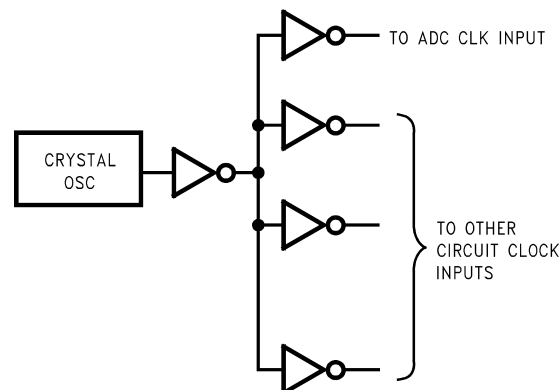

**Figure 23. An acceptable layout pattern**
**Figure 23** gives an example of a suitable layout, including power supply routing, ground plane separation, and bypass capacitor placement. All analog circuitry (input amplifiers, filters, reference components, etc.) should be placed on or over the analog ground plane. All digital circuitry and I/O lines should be over the digital ground plane.